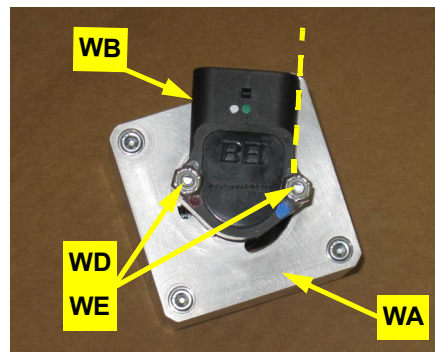

Figure 1a: Mounted WAS wire connector
- a. Using the provided hardware **WD** and **WE**, attach the WAS wire connector **WB** to the WAS housing **WA**. Install the bolts up through the bottom of the housing. Mount **WB** with its right edge in line with the corner of **WA** (Figure 1a).